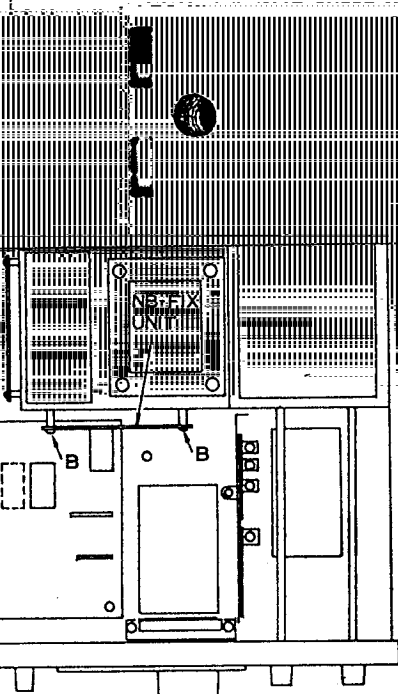
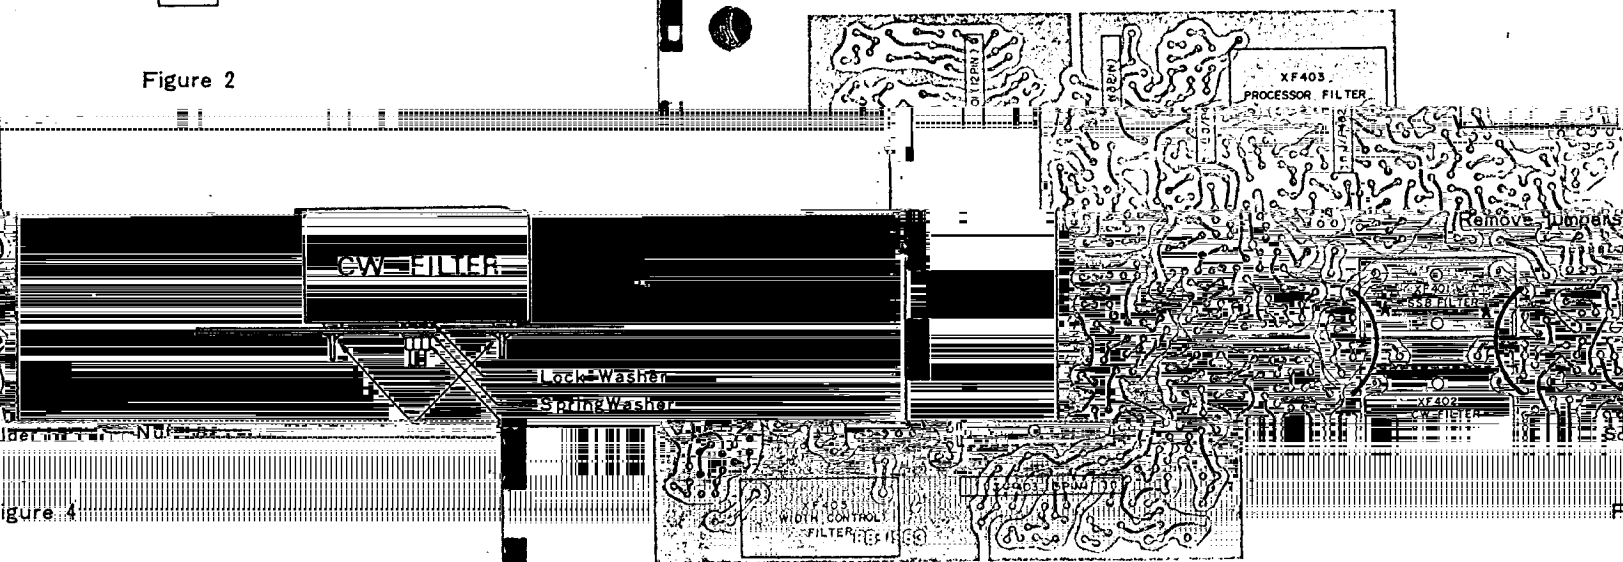

Figure 2
Figure 3
- (2) Refer to Fig. 2, and locate the NB-FIX circuit board. Remove its mounting screws, because this board is obstructing the removal of the IF unit.
- (3) Remove the 12-pin, 13-pin, and 15-pin plugs from their sockets on the IF unit. Remove the IF unit mounting screws, and remove the IF unit from the transceiver case.
- (4) Install the optional CW filter as shown in the foil side view of the IF unit (Fig. 3). Make the fastening nuts snug, and solder the pins of the filter to the circuit board, and remove the 2 jumper wires shown in Figure 3.
- (5) Re-install the IF unit, being careful to connect the 12-pin, 13-pin, and 15-pin plugs in the correct sockets. Refer to Fig. 2 to be sure. Re-install the NB-FIX unit, and replace the top cover of the transceiver.
- (6) When the optional CW filter is installed, the CW-N position of the mode switch will activate this filter. In the CW-W position, the SSP 2.4 MHz filter will be active. The WIDTH control is usable in all modes.